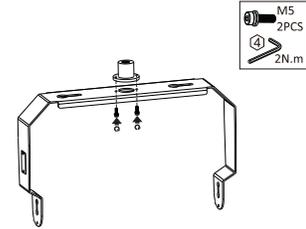

Fig. 33
3. Secure pendant mount to multi-mount bracket using the provided screws (Fig. 33).